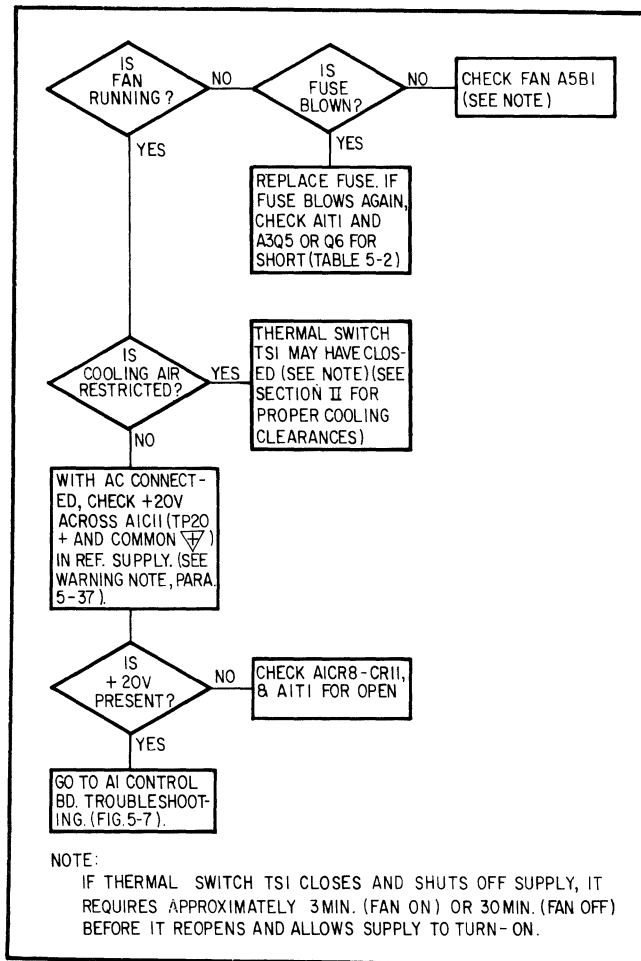

Figure 5-6. 0V Output Troubleshooting
- 0V output (most common failure symptom); proceed to Figure 5-6.
voltage or thermal protection mode. Allow unit to run for about 30 minutes. If output falls to 0V again, proceed to Figure 5-6. If output remains normal, line or load transient may have tripped overvoltage circuit. Connect load and operate unit normally.
d. High output voltage (above maximum rating); this symptom is unlikely to occur because it requires a failure both in the overvoltage protection circuit and one of the regulation circuits. If this failure does occur, repair inoperative overvoltage circuit (Q9 open, U6 faulty) first; then proceed to Figure 5-6.